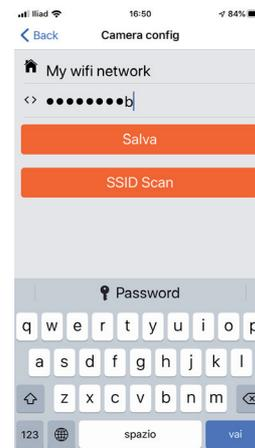

fig1
- select first Tab named **Wifi** for connection of wifi system of your home (see fig1)